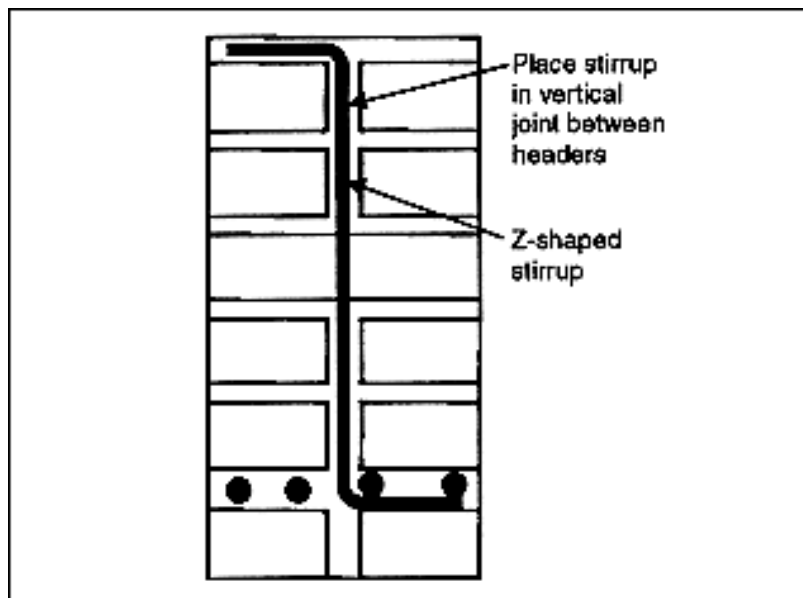

Figure 9-44. Reinforced brick-masonry beam construction
- Stirrups. Most stirrups are Z-shaped as shown in Figure 9-44 to fit the mortar joints. Insert the lower leg under--and contacting--the horizontal bars, which requires a thicker joint at that point.
Figure 9-44).
Step 3. Slip the legs of any stirrups under the horizontal bars as shown in Figure 9-44. Be sure to center the stirrup in the vertical mortar joint.